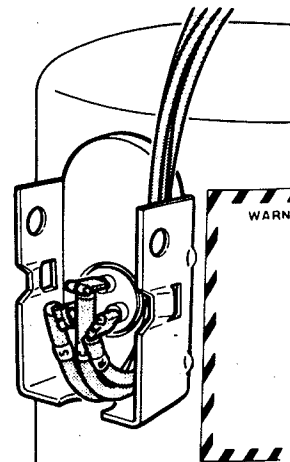

Figure 31. Compressor Connections
4. Remove wires C, R and S at compressor. Refer to Fig. 31 for compressor connections.